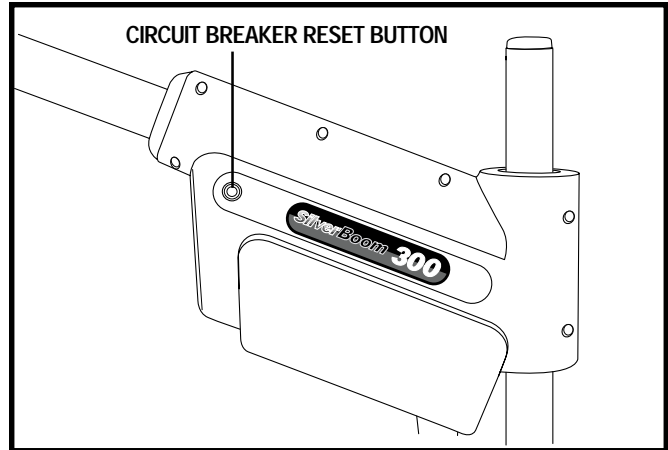

Figure 21. Circuit Breaker Reset Button SilverBoom 300
- Check the circuit breaker reset button. Reset if necessary. **See figures 21 and 22.**
If your SilverBoom is heavily strained because of excessive loads, the main circuit breaker (**see figures 21 and 22**) may trip to protect the motor and electronics from damage. When the breaker trips, the entire electrical system shuts down.